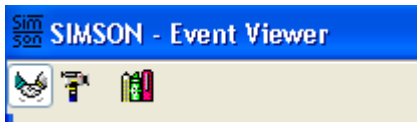

Figure 10.2 Toolbar buttons in the Event Viewer
- To prevent previous events from being removed, click the first button on the toolbar (see Figure 10.2). Events will then be merged with the event list until the same button is pressed again.